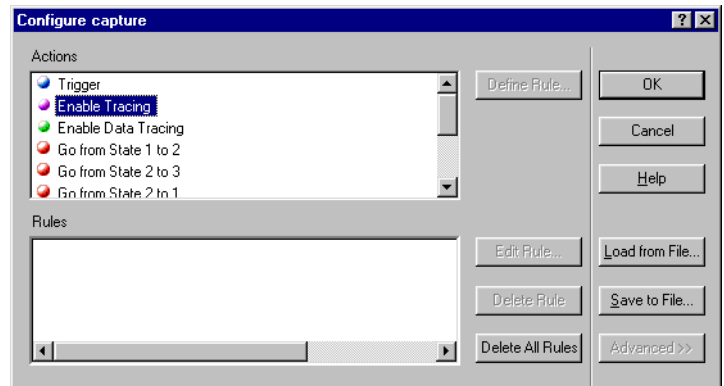

Figure 8-1 Configure capture dialog box
- Set the tracing conditions by selecting **Configure Capture** from the **Trace** menu. The **Configure capture** dialog box is shown in Figure 8-1.